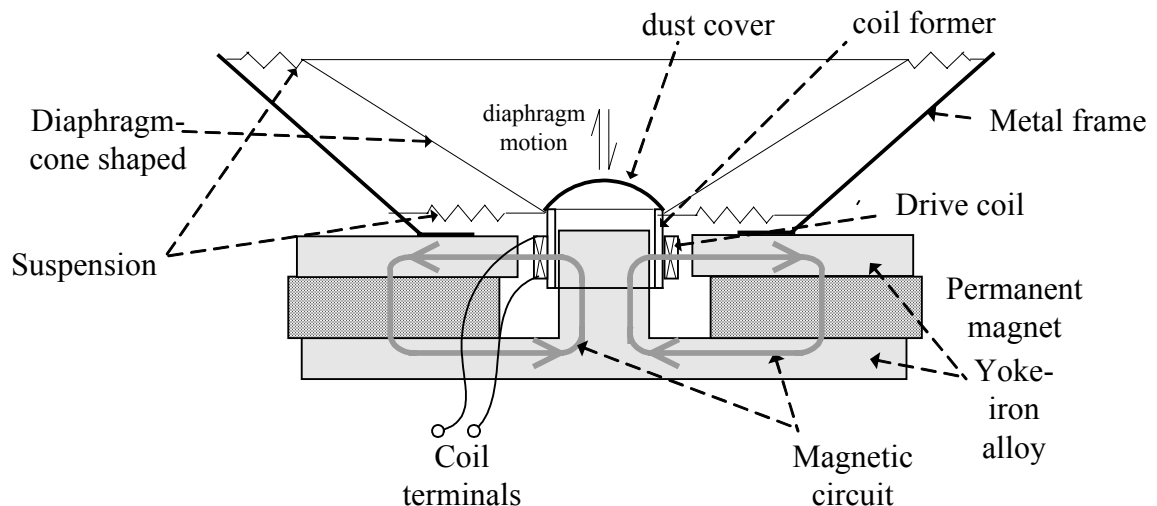

Figure 3.38 Loudspeaker
14. Loudspeakers are also electro-acoustic transducers that convert electrical energy into acoustic energy. Acoustic energy requires a presence of matter in the medium to propagate (it does not propagate in vacuum), unlike electromagnetic energy. Air is the medium of propagation for audio acoustics, and the matter that supports the propagation is air. A loudspeaker acts like a piston and forces air in its vicinity, to move to and fro at the frequency of the signal and at an amplitude proportional to the signal amplitude. The structure of an ordinary loudspeaker is given in Figure 3.38.
Loudspeakers are most commonly made to have a circular symmetry. Figure 3.38 gives the cross section of the speaker. The cone section above is a cone shaped light diaphragm and it simply acts as the piston head to push the air. It is very lightly supported at the peripheral metal frame by corrugated suspension, both at top and at bottom. This support allows the diaphragm to move easily, but up and down only.